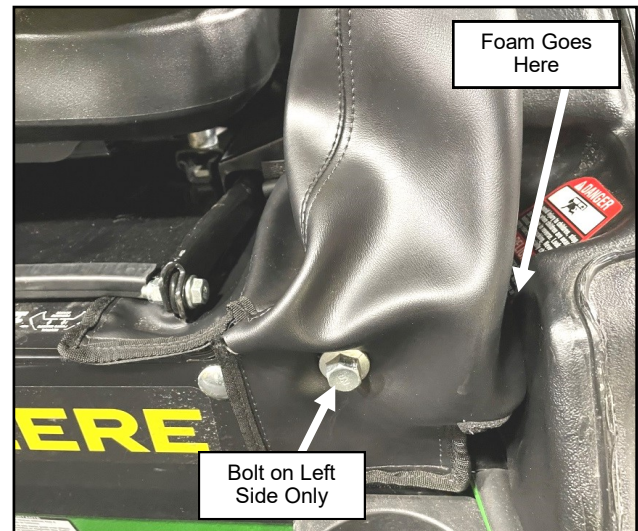

Fig. 2.22 (Install Left Filler, Outside)
**2.21** Slide the supplied right hand drive handle boot down over the drive handles. (The right filler does not have the hole shown in Figure 2.22)
Slide the hole in the left boot over the head of the adjustment bolt as shown in Figure 2.22 upon installation.